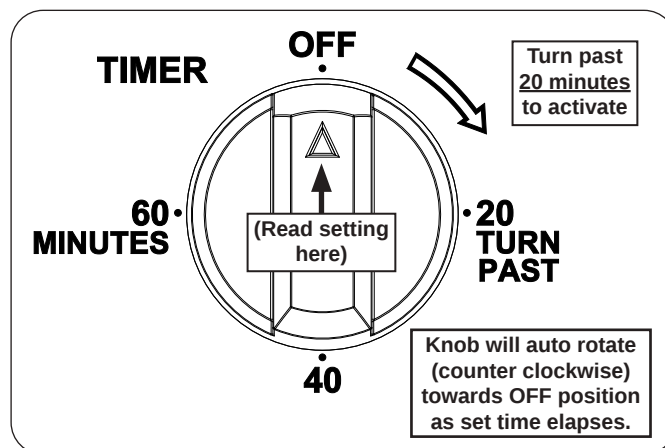

Fig. 37-2 Timer control
4. Set the **TIMER** control knob to the desired cooking time. See Fig. 37-2. See the **SETTING THE TIMER** section below for more details.
Important: When using the timer for periods of less than twenty minutes, you must first turn the knob past twenty minutes (to activate), then return (counter-clockwise) to the desired amount of time. This will ensure proper timer operation. See Fig. 37-2.